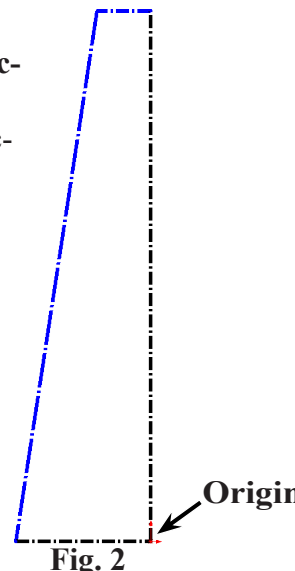

Fig. 2
Step 4. Starting at the Origin  draw the 4 **constructions lines**, **Fig. 2**. Draw the angled line last and before moving cursor ways from construction line, right click construction line and **unselect Construction Geometry**  on Context toolbar, **Fig. 9**.